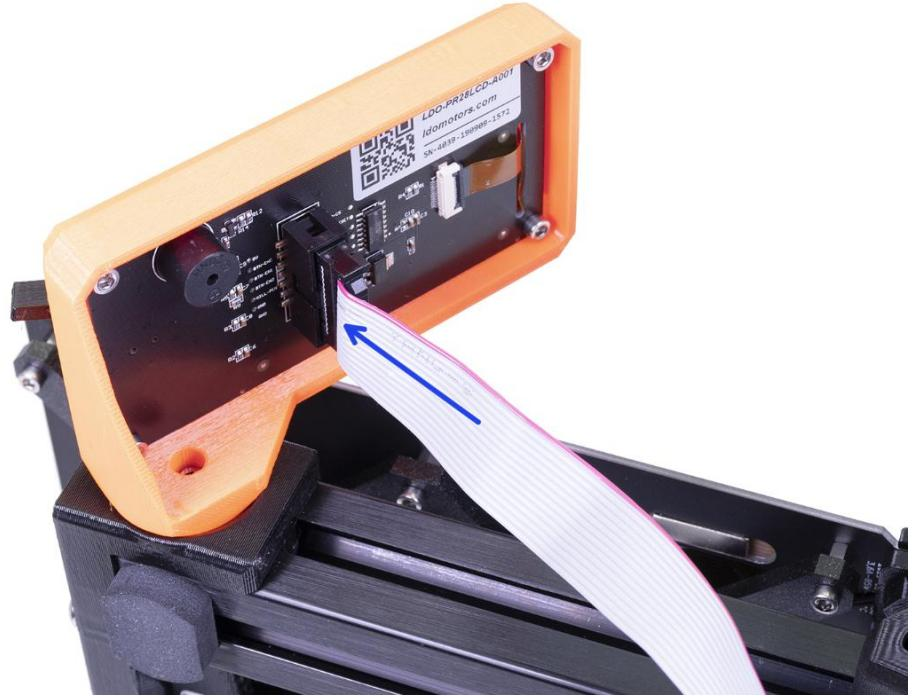

Figure 5.1.24
**B:** As shown in Figure 5.1.24. Insert the connector in the socket on the board. Make sure it is all the way in.